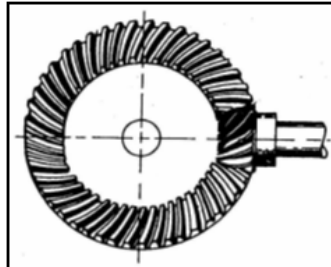
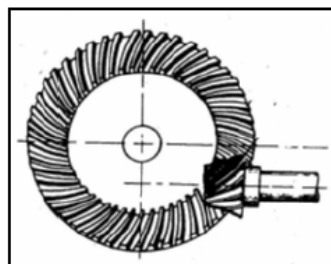

FIGURE 15.2
FIGURE 15.3
- 11.1.1 Identify the final drive systems shown in FIGURE 15.2 and FIGURE 15.3 below and give ONE advantage and ONE disadvantage of each.